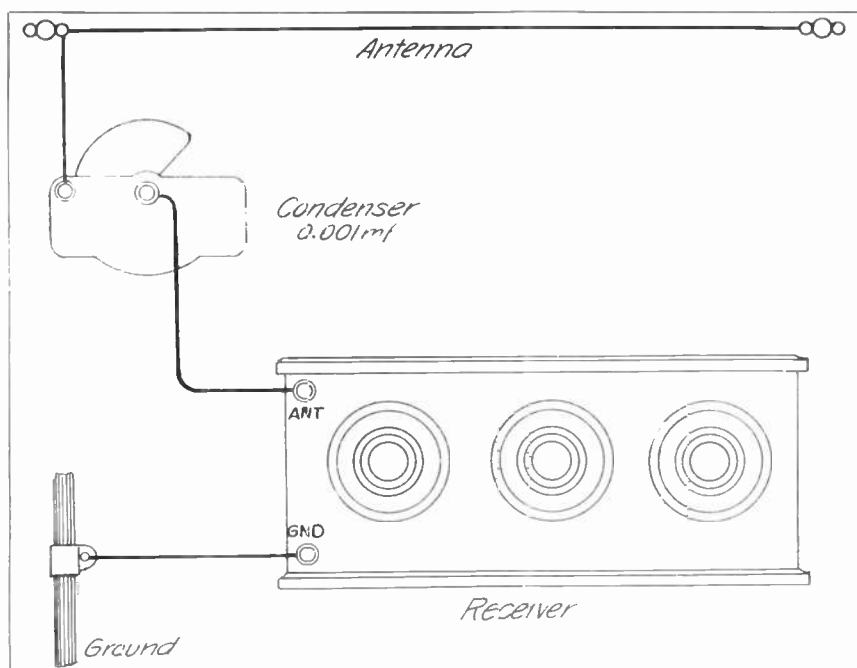
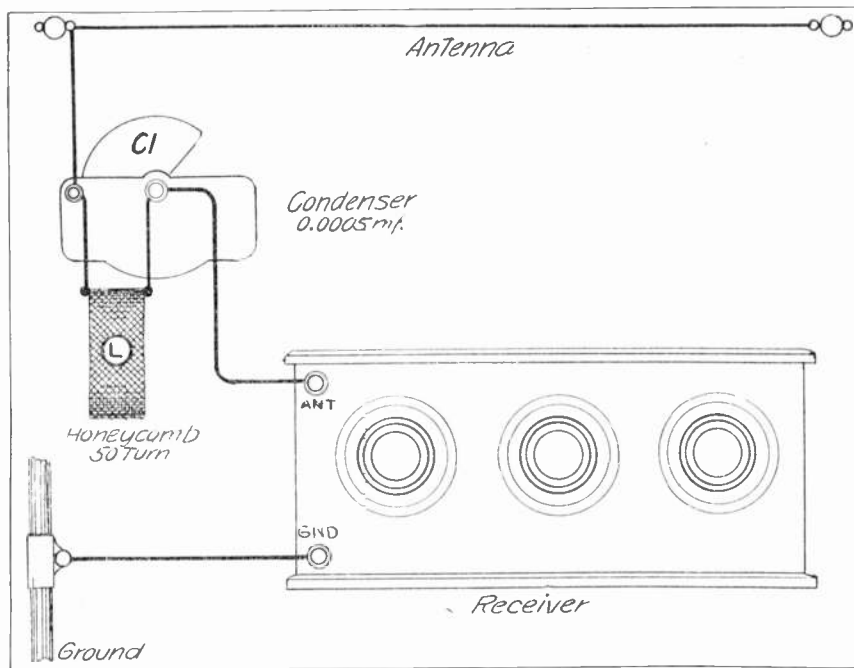

FIGURE 1
FIGURE 2
Figure 1 (top). A typical applause-verification card now much in use. Figure 2 (lower left). Another interpretation of the demand for applause-verification card. Figure 3 (lower right) is a straight verification card designed to report long distance reception.
Another method of sharpening the tuning without causing the high losses above is to "trap" the foreign signals by means of a 0.001 m. f. variable condenser in the antenna line as illustrated by Fig. 1. This is of great assistance in moderate cases of interference but adds to the difficulty of tuning by increasing the number of tuning controls handled. A still more effective secondary tuner is had by the use of a 0.0005 m. f. variable condenser (C1) in the antenna circuit as per Fig. 2 with a 50 turn honeycomb coil (L) connected across the ends of the condenser. I am not greatly in favor of adding so much complication into the circuit, and believe that when matters reach such a point that trapping is necessary that a new receiver is by far the best method of eliminating the interference.